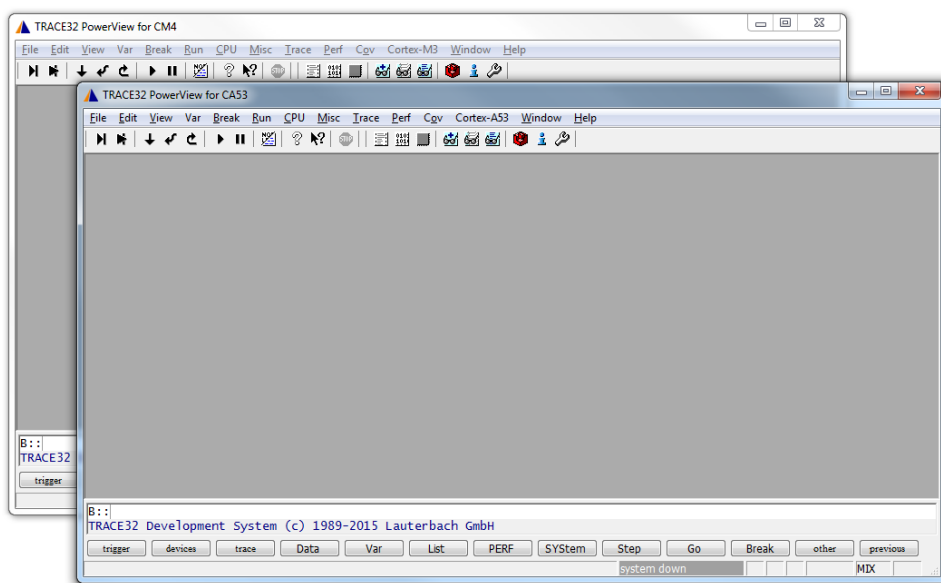

Figure 4 PowerView windows for S32V234 debug
3. Two T32 instances will open, from now, only PowerView for CA53 will be used (all scripts are ran from here) (Figure 4)